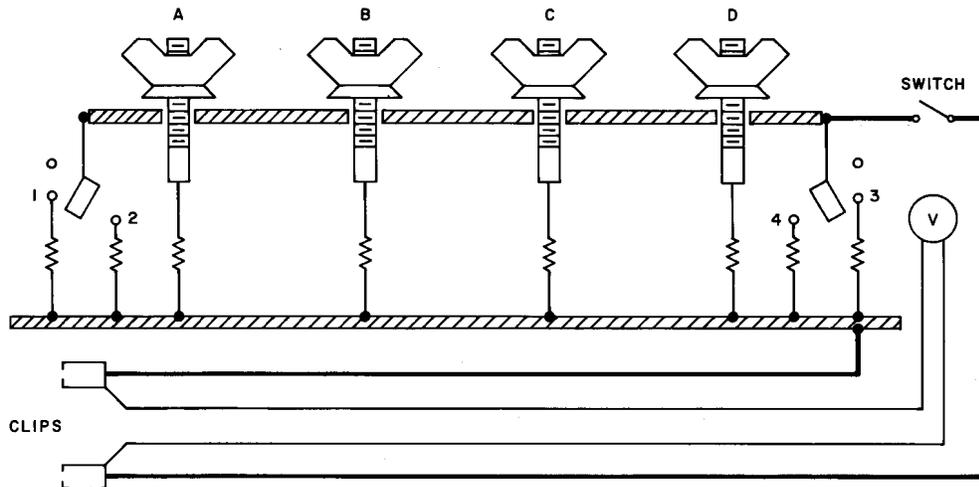

Fig. 1—Schematic of Testers
1.04 The tester is designed for testing one cell at a time and, being unfused, may be damaged if connected to higher voltage. It has eight resistors which can be connected in parallel as shown in Fig. 1. The heavy current (low resistance) resistors